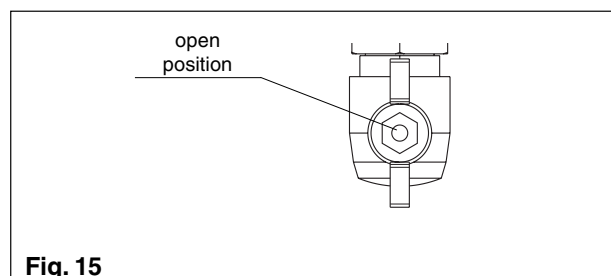

Fig. 15
- open the gas tap by turning it anti-clockwise (fig. 15).